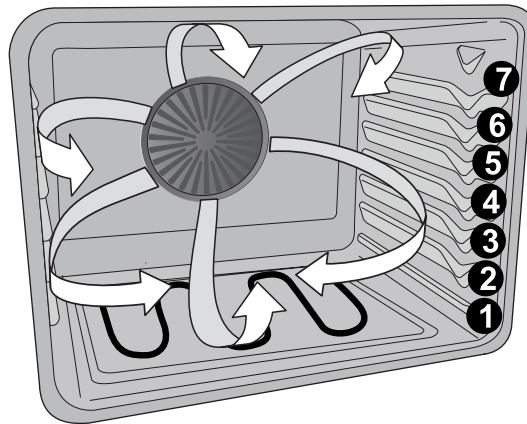

Fig. 1
- When using 2 oven racks at the same time, place in positions 3 & 5 for best results (See Fig. 1).